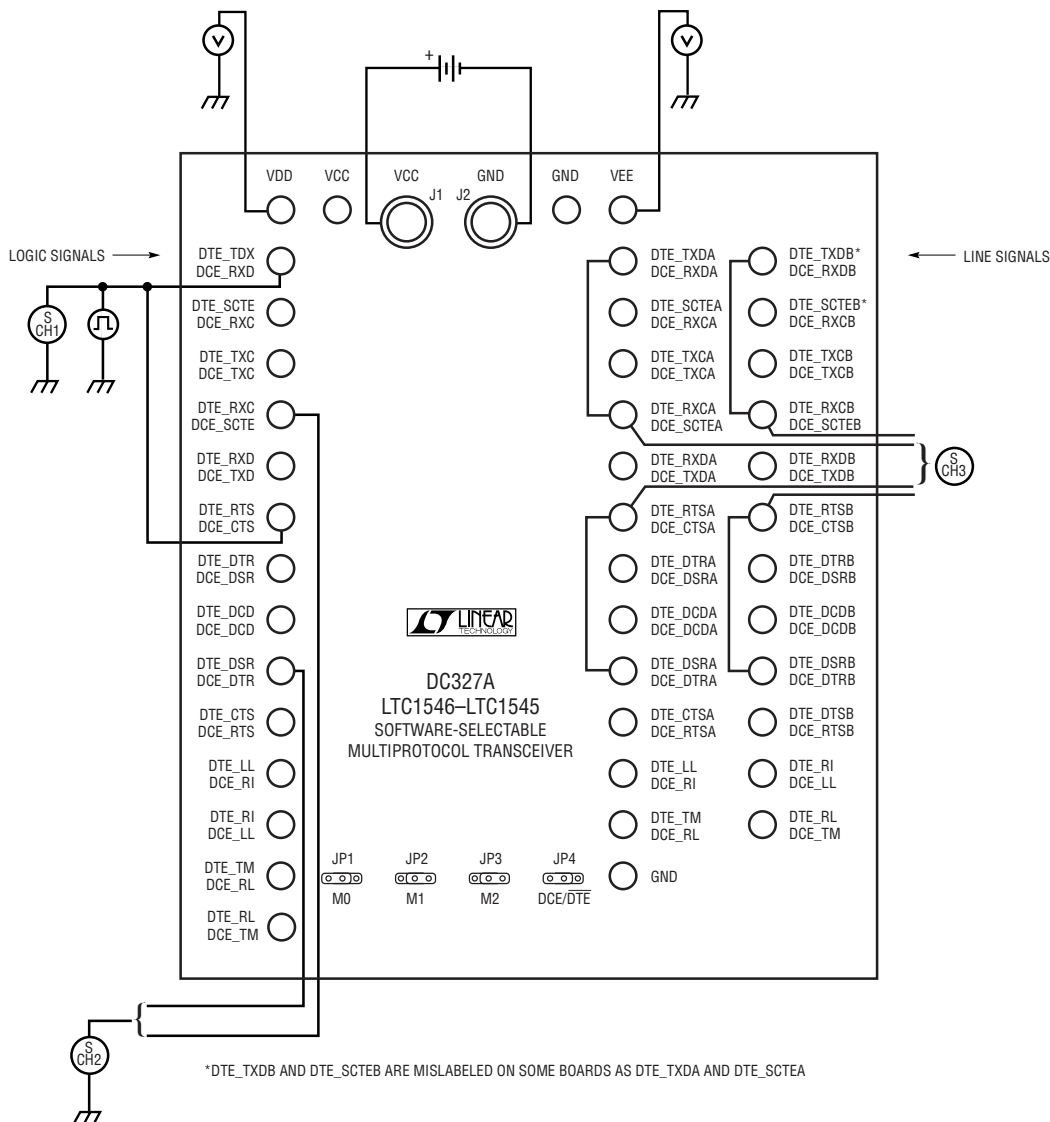

Figure 1. DC327A Test and Measurement Setup
1. Connect the input voltage power supply, meters, pulse generator and oscilloscope as shown in Figure 1.